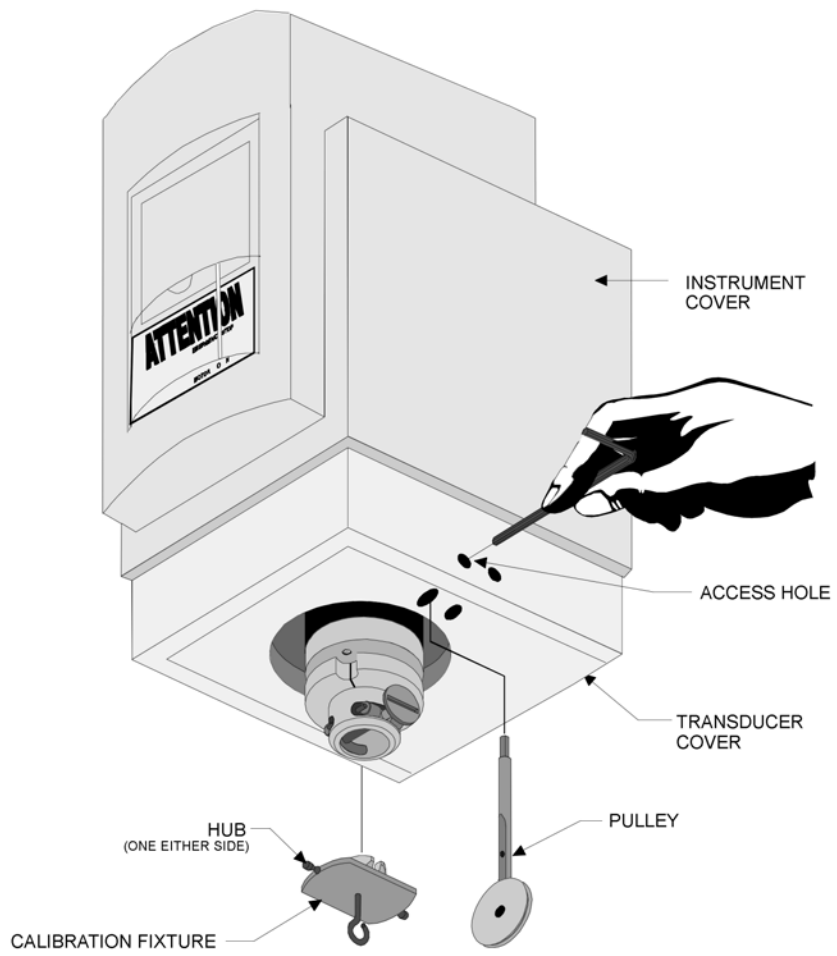
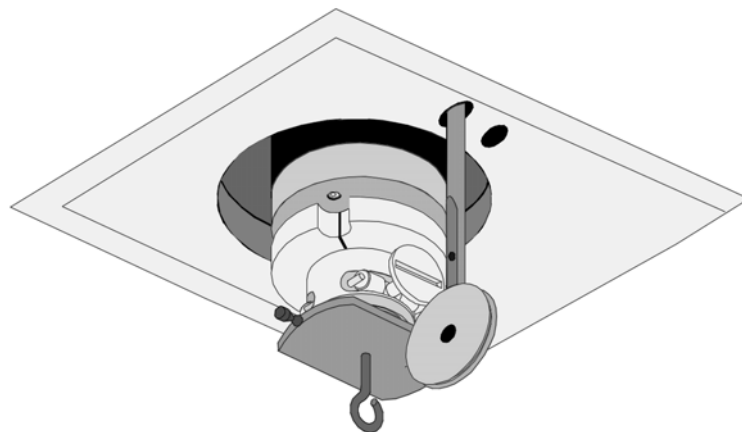

Figure 5-2. Installation of the Calibration Tool and Single Pulley
Figure 5-3. Calibration Tool and Single Pulley Installed
4. Raise the stage to bring the bottom of the stainless steel transducer cover about 2 inches below the instrument cover (Figure 5-2).
6. Install the calibration tool and pulley as shown in Figure 5-2.
- a. For 10K STD Transducers: Two pulleys are supplied. Referring to Figure 5-2, insert a pulley into each side of the Test Station frame, ensuring that the flat machined into each pulley shaft faces the access hole. Please note that Figure 5-2 shows the pulley on the right side only.
- b. For all other transducers: Insert the pulley into the Test Station frame as shown in Figure 5-2, ensuring that the flat machined into the pulley shaft faces the access hole.Secure the pulley(s) by tightening the setscrew in the access hole (Figure 5-2) using a 1.5-mm hex wrench. Ensure that the calibration tool and pulley are installed as shown in Figure 5-3. If you have a 10K STD transducer, an additional pulley should be installed on the left.
4. Install the calibration tool as shown in Figure 5-2 (the pulley need not be installed).